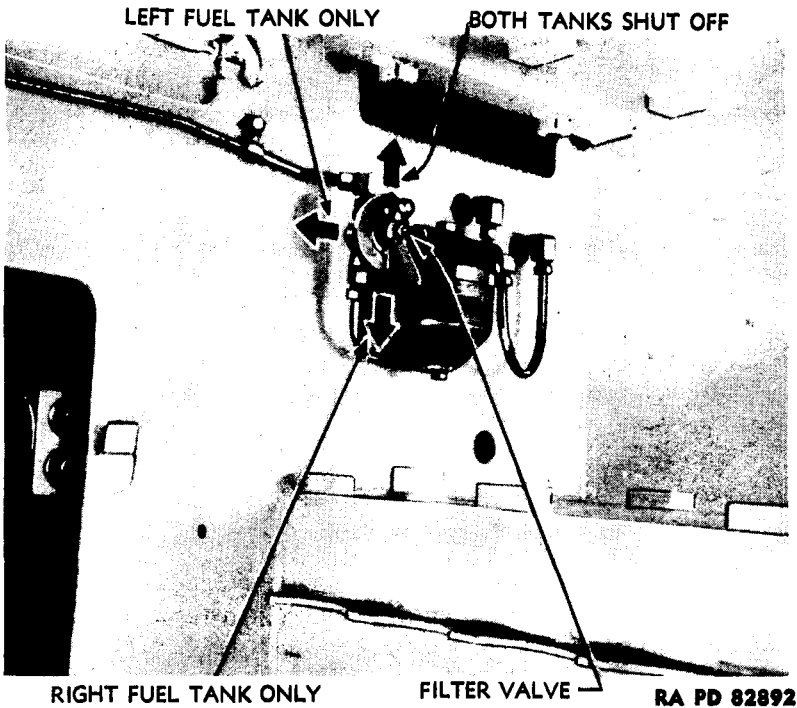

Figure 82 - Fuel Filters
(1) **MAIN ENGINE FILTER.** To clean the main fuel filter, first shut off the gasoline either by closing both valves on early-type filters, or by turning the single valve so that the pointer is straight up on late-type vehicles (fig. 82). Place a small pan underneath the filter and remove bowl retainer plug and allow fuel to drain. Remove bowl from filter cover and clean thoroughly with compressed air and dry-cleaning solvent. Remove screw and lock washer from center of upper cover, and lower bowl stem, strainer spring, and strainer assembly from filter cover. Clean strainer assembly thoroughly with compressed air. Position a new strainer gasket on strainer assembly, and position on filter cover, inserting bowl stems with spring installed through the strainer assembly. Install stem retainer screw in upper cover. Position a new filter bowl cover gasket on cover, and install bowl. Install plug through bowl into stem.